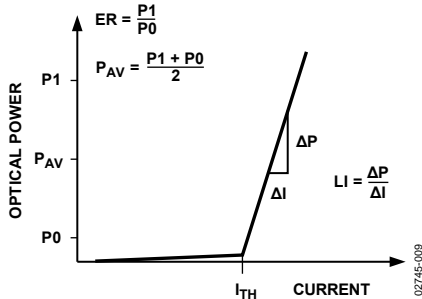

Figure 9. Laser Transfer Function
Laser diodes have current-in to light-out transfer functions, as shown in Figure 9. Two key characteristics of this transfer function are the threshold current,  $I_{TH}$ , and the slope in the linear region beyond the threshold current, referred to as slope efficiency (LI).